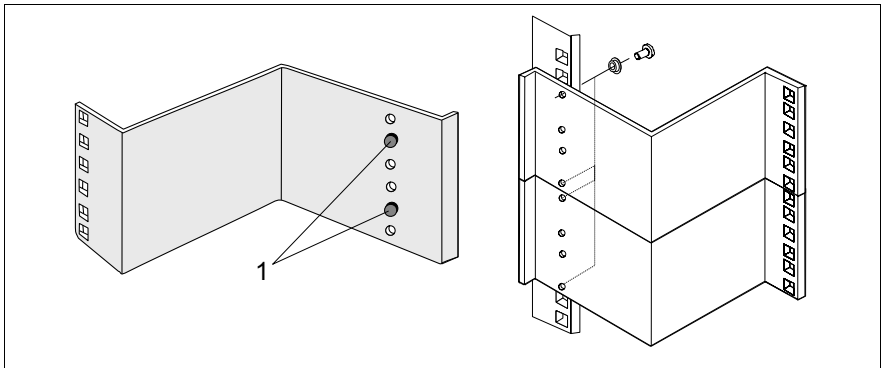

Figure 6: Mounting the support brackets
- ▶ Place the first support bracket at the appropriate height (level with the lower edge of the device) on the left rear support upright by inserting the positioning nubs (1 in figure 6) in the corresponding holes of the support upright.
Note that the second bracket will be mounted level with the upper edge of the first support bracket mounted (see figure 6 on page 38).